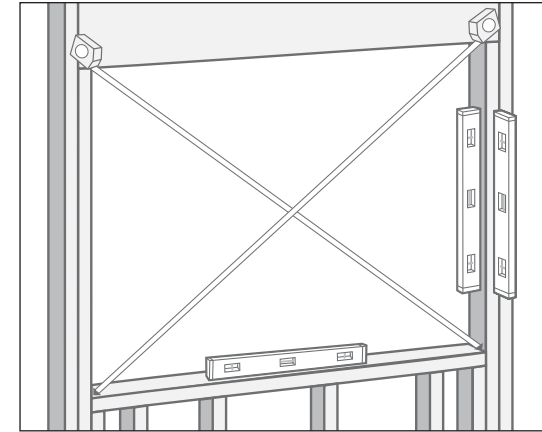

fig. 2
- Make sure the walls are plumb and not twisted. Check the rough opening for square by measuring diagonally from corner to corner in both directions. Measurements cannot differ from each other by more than 1/4". (fig. 2)
- Check the sill for level and make sure jambs are plumb. (fig. 2)